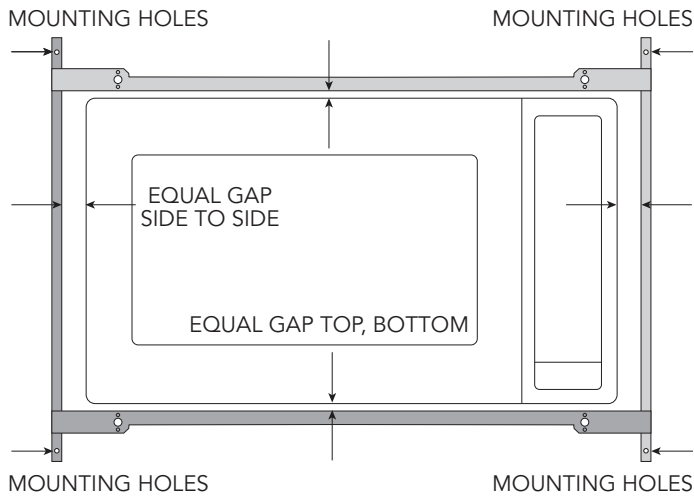

Figure 9
D. BACK FRAME INSTALLATION: Position back frame equal space top to bottom, side to side. Mark for 4 holes, center punch and pre-drill with 1/16" drill bit. Secure frame with 4 SCREWS (G). See Figure 9.